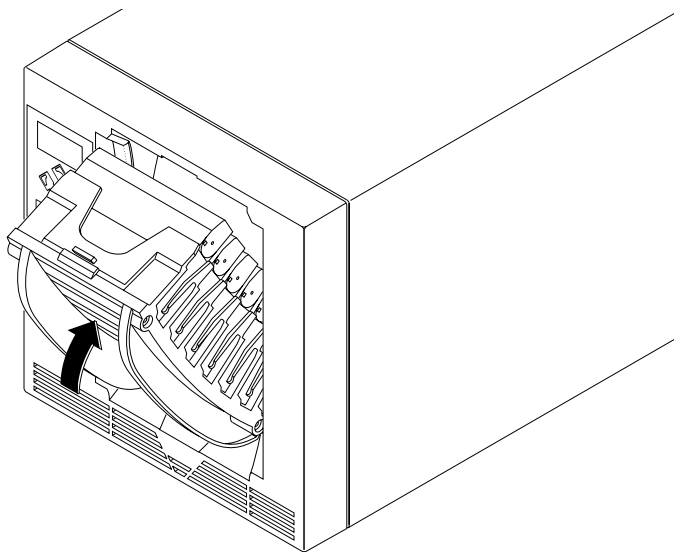

Figure 2-5 Inserting the cartridge magazine
6. Push the top of the magazine in toward the autoloader until it snaps into place, as shown in Figure 2-5.